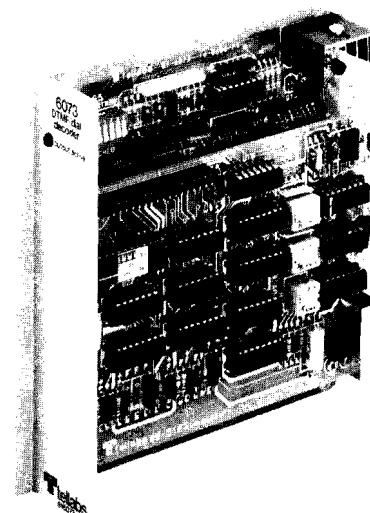

figure 1. 6073 DTMF/Dial Decoder module
1.01 The Tellabs 6073 DTMF/Dial Decoder module (figure 1) provides one, two, or three-digit selective signaling from either a dual-tone multi-frequency (DTMF) or rotary-dial source. Upon receipt of the correct DTMF or dial-pulse (DP) digits, the 6073 module activates one of 12 discrete signaling output leads which provides an active ground potential for external loads referenced to any negative voltage between  $-22$  and  $-56\text{Vdc}$ . The 6073 module is used in a variety of applications that require local or remote activation of external circuitry. Also, when used with the Tellabs 291 or 292 Conference/Alerting system, the 6073 module provides the means for any conference subscriber to activate a siren or other emergency device by simply dialing a single-digit code.